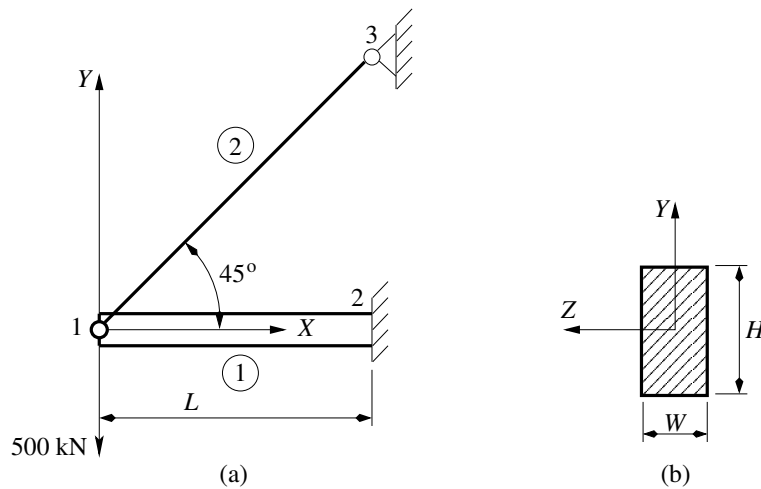

Figure 1: A stiffened beam
The bar element 2 is used to stiffen the cantilever beam 1, as shown in Fig. 1(a). All members are made of steel (Young’s modulus $E = 210$ GPa). The bar has a cross-sectional area of $A = 1 \times 10^{-3}$ m². The cross-sectional area, principal moment of inertia and length for the beam are $A = 2 \times 10^{-3}$ m², $I_z = 5 \times 10^{-5}$ m⁴ and $L = 3$ m, respectively. Determine the nodal displacements, element forces and stress in each element.
- Units to be used: Length (m), Force (N)
- Beam's height: To determine the stress distribution in the beam, it is necessary to know the height of the beam. Assume that the beam has a rectangular cross section of width W and height H as shown in Fig. 1(b). From